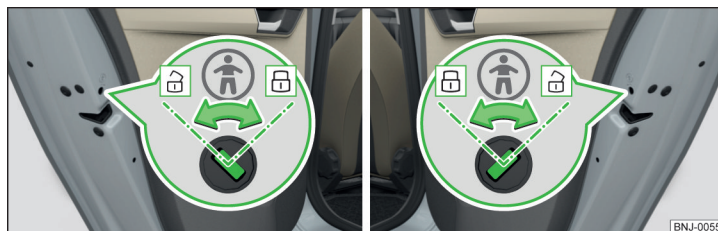

Fig. 35 Rear door: Switching the child safety system on/off
- To **turn on** the child safety lock, turn the vehicle key to position **Ⓐ** » Fig. 35.